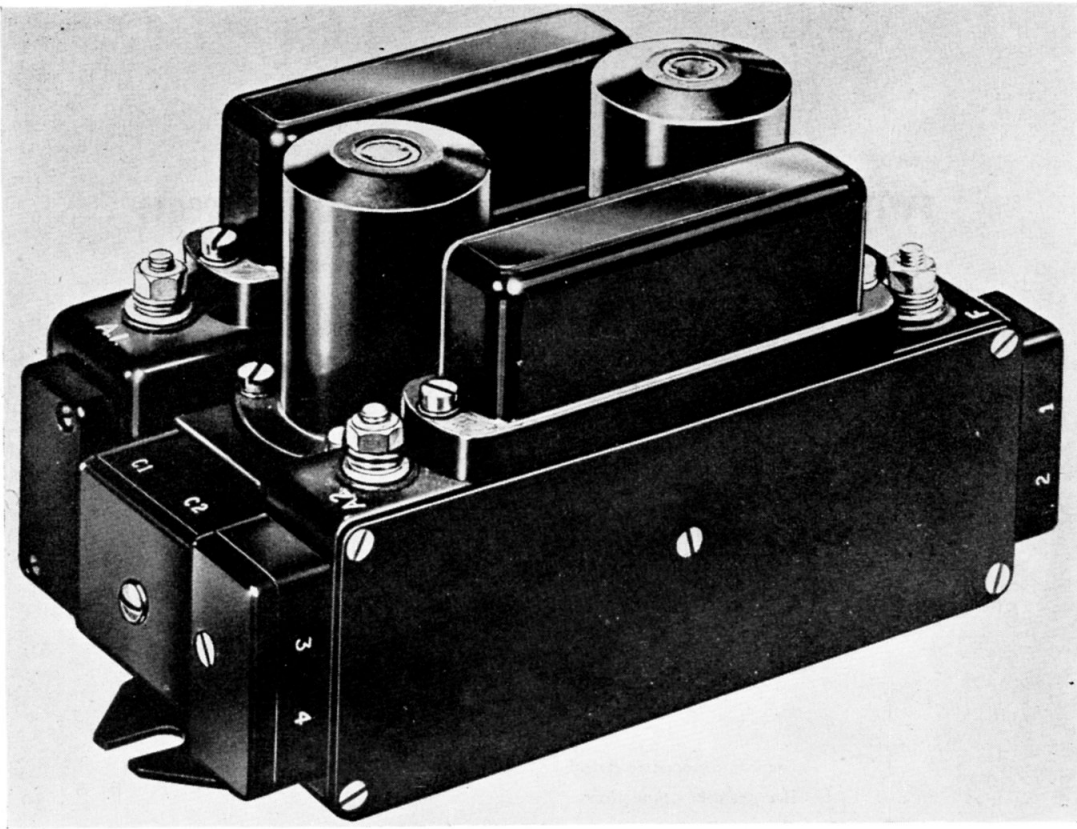
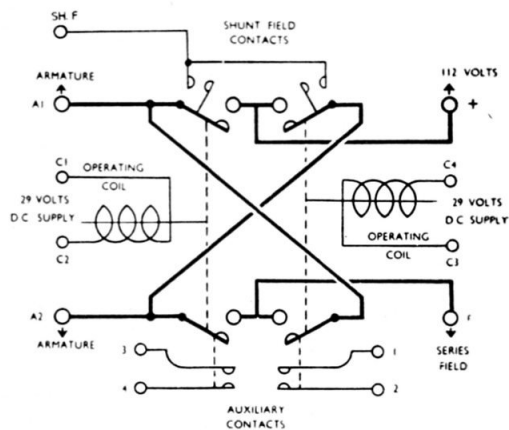

Fig. 1. Type 6A magnetic switch
Fig. 2. Diagram of connections
2. The Type 6A switch (*fig. 1*) is identical to that described in A.P.4343, Vol. 1, Sect. 11, Chap. 12. Its auxiliary contacts (terminals 1, 2, 3 and 4) are normally open, as indicated in *fig. 2*.